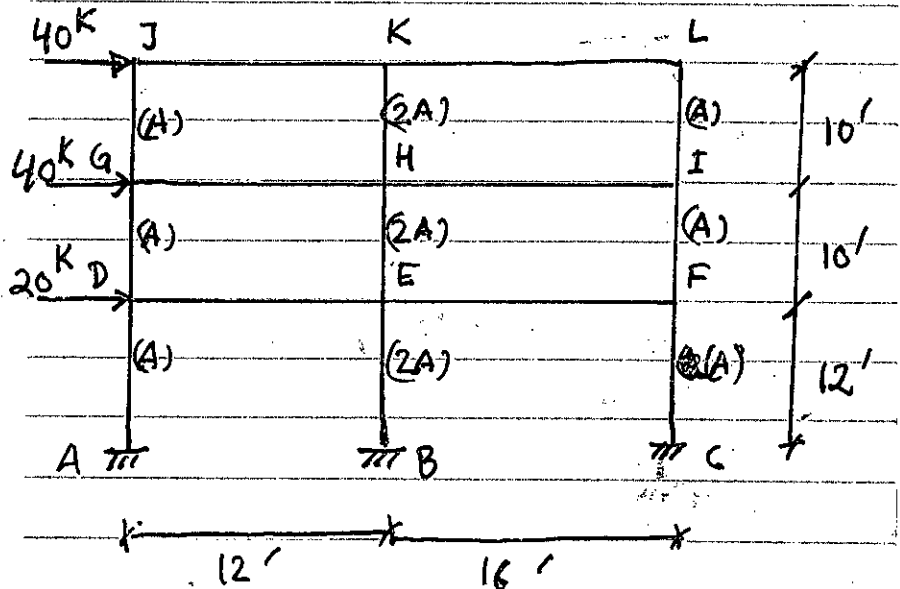

Fig. 7
9. (a) Using Cantilever Method draw shear force diagram and bending moment diagrams for the column ADGJ and girder GHI of the multi-storied building frame loaded as shown in Figure 7. Relative column cross-sectional areas are given beside the columns. (28)